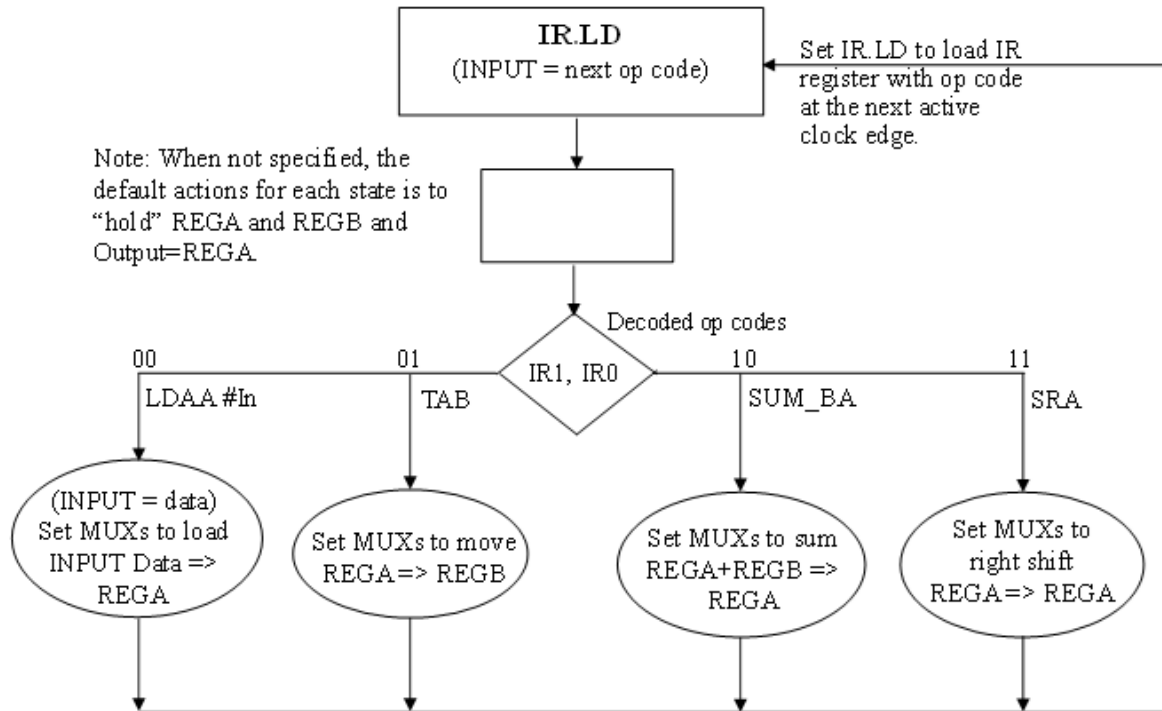

Figure 2. Controller flow chart (not an ASM)
The flowchart (**NOT** an ASM) for the controller is shown in Figure 2. All instructions execute in one cycle (plus one cycle to load the IR register). I strongly encourage you to use VHDL for the combinatorial part of the controller.
1. Use the flowchart shown in Figure 2 to help you create an ASM chart. The ASM's outputs include the MUX select signals (instead of the description of actions).